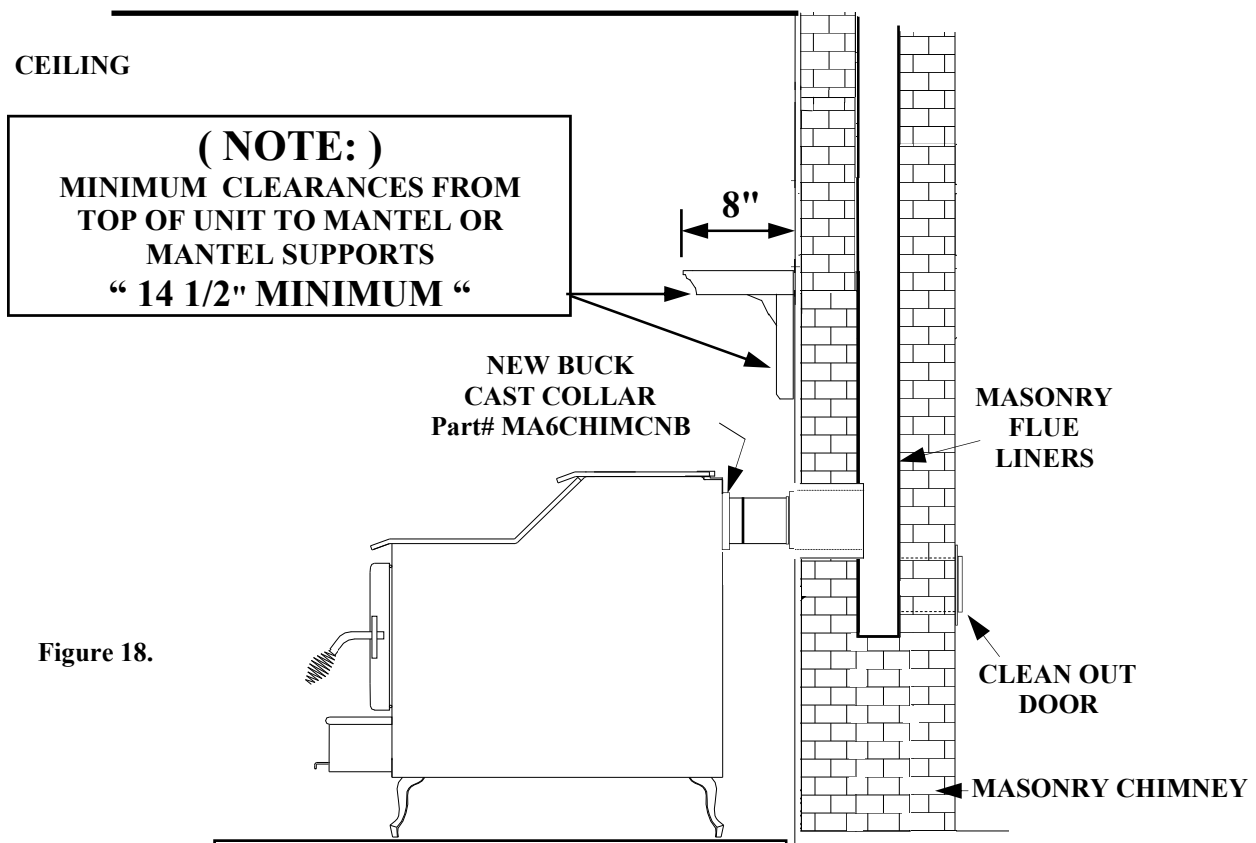

Figure 18.
- (c) Secure each section to each other using at least three (3) sheet metal screws or rivets.
- (d) Use three (3) sheet metal screws to fasten pipe to New Buck Cast Collar on heater. after New Buck Cast Collar Part# MA6CHIMCNB has been attached to stove. (See Page 23 Figure 18).